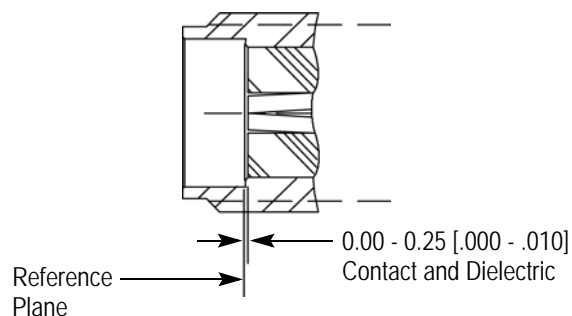

Figure 5
9. Adherence to assembly procedure should yield tolerances shown in Figure 5.